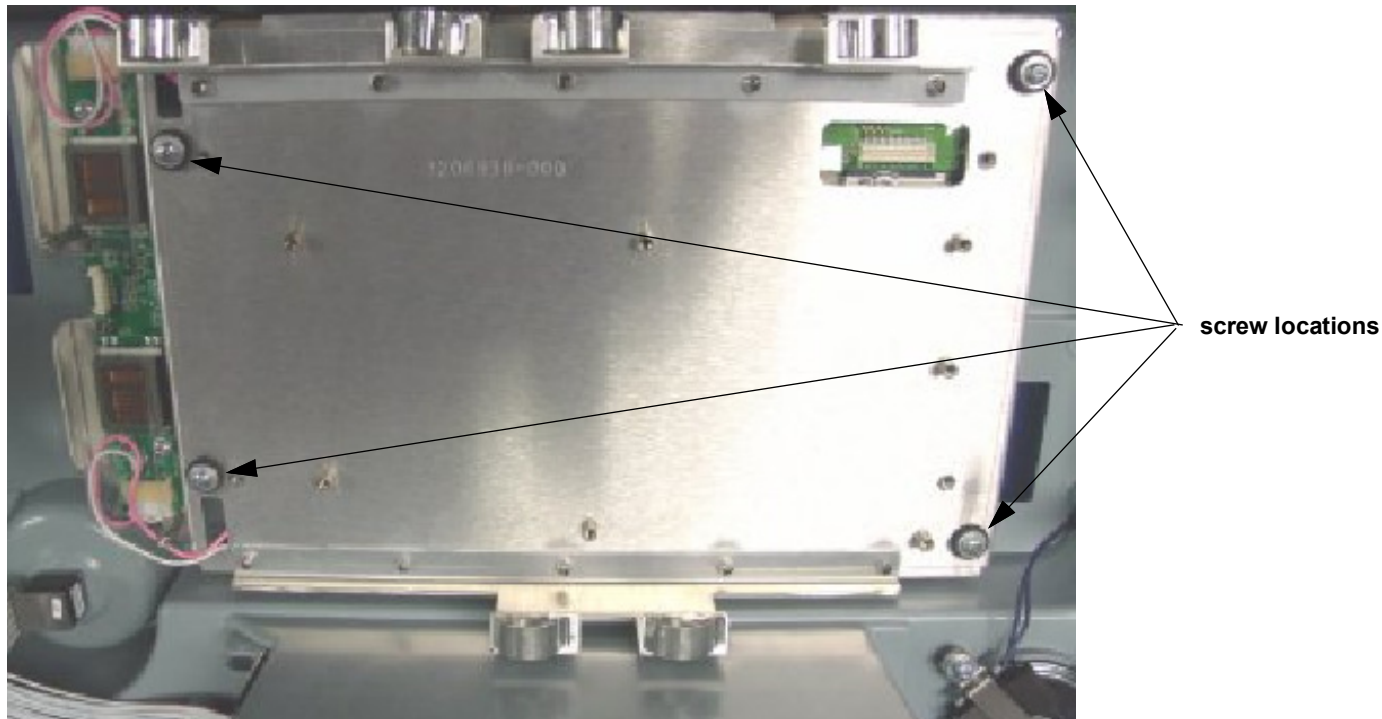

Figure 8.18—LCD display assembly screw locations
4. Remove the four LCD bracket mounting screws (REF F07) (see Figure 8.18 on p. 203). Discard the screws.